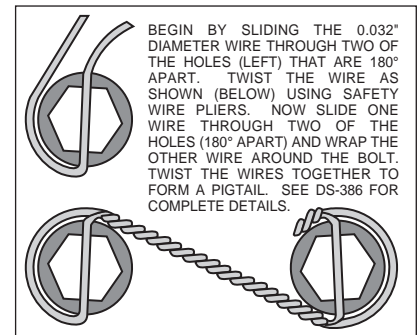
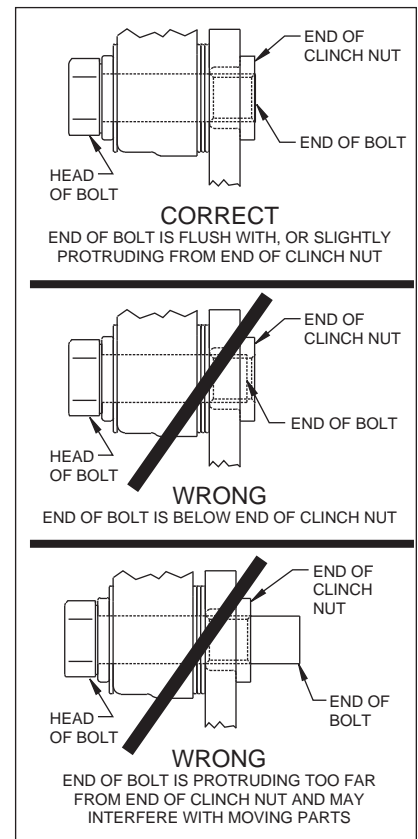

Figure 4. Safety Wire Diagram
Figure 5.
- With the slot pointing upward and the mounting ears pointing towards the rear of the vehicle, install the caliper mounting bracket (1) to the housing flange using the stock Original Equipment Manufacturer (OEM) bolts and nuts. Stock OEM hex nuts that retain the bracket (1) should be on the wheel side of the bracket. Apply red *Loctite*® 271 to the stock OEM bolt threads and torque to OEM specifications. **NOTE:** Some brackets act as the bearing retainers, while others help locate the bearing in the axle housing flange. If the stock bearing plates are still on the axle, the caliper mounting brackets (1) should be located between the axle housing flange and the bearing retainer plate. Make sure the heads of the caliper mounting bracket insert nuts are FACING OUTWARD TOWARDS THE WHEEL.
- Bolt the hat (2) to the rotor (3) using washers (4) and bolts (5). Torque bolts (5) to 180 in-lb. Safety wire bolts (5) using standard 0.032 inch diameter stainless steel safety wire as shown in Figure 4. Please refer to Wilwood's data sheet DS-386 (available at www.wilwood.com/Pdf/DataSheets/ds386.pdf) for complete safety wire installation instructions.
- Align the correct hole pattern in the hat (2) with the stud pattern on the axle flange. **NOTE:** Some OEM and after market axles come with stud sizes larger than 0.50" diameter. Verify stud size and have a qualified machine shop drill the hats to the correct size. Slide the hat/rotor assembly (2 and 3) over the wheel studs and against the axle flange face.
- NOTE:** Please reference the caution statement at the beginning of the assembly instructions. WITH THE BLEED SCREWS POINTING UP, mount the caliper (6) over the rotor (3) and onto the caliper mounting bracket (1) using washers (7) and mounting bolts (8). View the rotor through the top opening of the caliper. The rotor should be aligned in the center of the caliper. If not, adjust the caliper by using 0.032 inch shim washers (9), placing them between the caliper mounting bracket (1) and the caliper (6). Add as many shim washers (9) as necessary to achieve the correct alignment. **NOTE:** The end of the bolt must be flush with or slightly protruding from the head of the clinch nut. See Figure 5. Place spare shims (9) between washer and caliper mounting ear to achieve the proper mounting fastener configuration. Always use the same amount of shims on both the top and bottom caliper mounting bolts (8). Apply red *Loctite*® 271 to the mounting bolt threads (8), torque bolts to 30 ft-lb. Safety wire the caliper mounting bolts (8).
- Position the Wilwood disc brake pads (10) into the caliper (6) and fasten with cotter pin (11). Steel backing plate side of brake pad should face the caliper pistons.